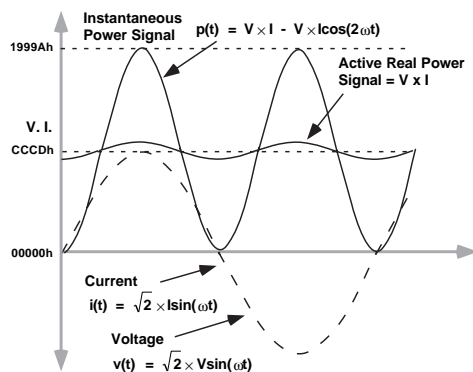
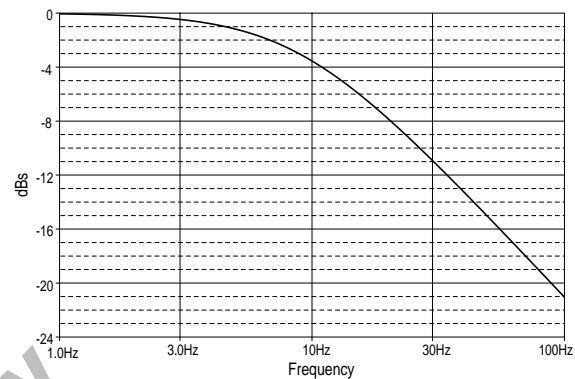

Figure 28—Active Power Calculation
Figure 29—Frequency Response of LPF2
P is referred to as the Active or Real Power. Note that the active power is equal to the dc component of the instantaneous power signal $p(t)$ in Equation 3, i.e., VI . This is the relationship used to calculate active power in the AD7756. The instantaneous power signal $p(t)$ is generated by multiplying the current and voltage signals. The dc component of the instantaneous power signal is then extracted by LPF2 (Low Pass Filter) to obtain the active power information. This process is illustrated graphically in Figure 28. Since LPF2 does not have an ideal “brick wall” frequency response—see Figure 29, the Active Power signal will have some ripple due to the instantaneous power signal. This ripple is sinusoidal and has a frequency equal to twice the line frequency. Since the ripple is sinusoidal in nature it will be removed when the Active Power signal is integrated to calculate Energy—see *Energy Calculation*.
As mentioned in the last section, the discrete time sample period (T) for the accumulation register is 1.1μs (4/CLKIN). With full-scale sinusoidal signals on the analog inputs and the Active Power Gain register set to 000h, the average word value from LPF2 is CCCDh - see figures 28 and 31. The maximum value which can be stored in the Active Energy register before it over flows is 2³⁹ or 3F,FFFF,FFFFh. Therefore the integration time under these conditions is calculated as follows: